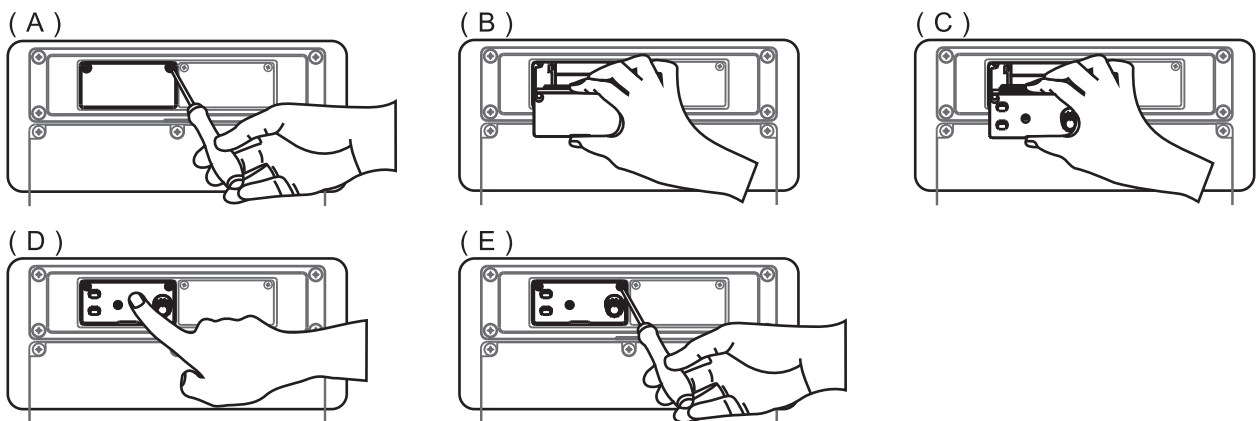

Fig. 18
2. Installation or detachment of wireless receiver modules. Fig. 18: